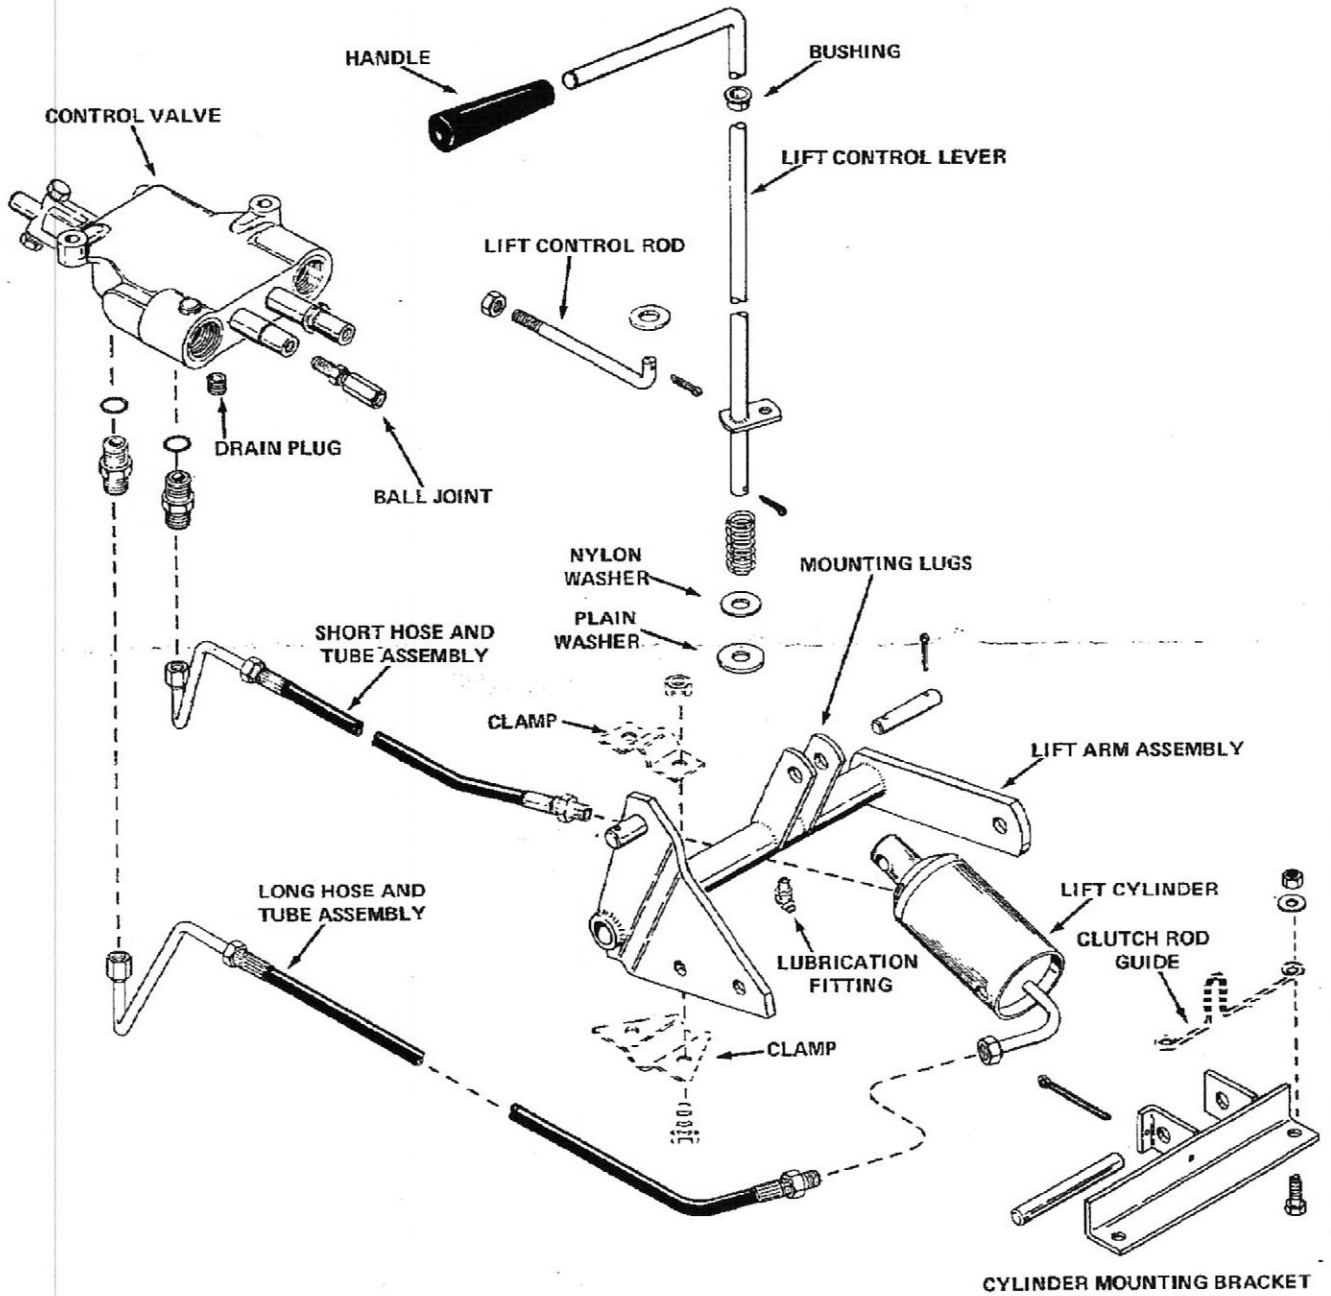

FIGURE 2. HYDRAULIC LIFT KIT ASSEMBLY
- a. Slide the assembly onto the cross shaft and install the original clamps shown in Figure 2. Center the brake pivot shaft and install the cotter pin through the right side next to the tractor frame.
9. Install the shorter hose and tube assembly to the port at the rod end of the lift cylinder. Connect the longer hose to the elbow at the base of the cylinder. Apply a good pipe thread sealer or teflon tape on the hose threads before installing. With the cylinder positioned as shown in Figure 2, the tube ends must point straight upward.